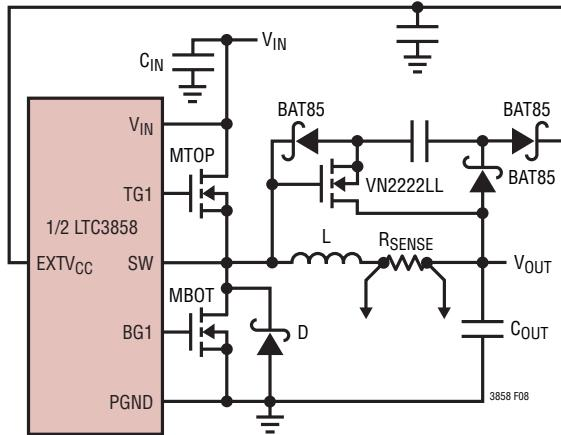

Figure 8. Capacitive Charge Pump for  $\text{EXTV}_{\text{CC}}$
4.  $\text{EXTV}_{\text{CC}}$  Connected to an Output-Derived Boost Network. For 3.3V and other low voltage regulators, efficiency gains can still be realized by connecting  $\text{EXTV}_{\text{CC}}$  to an output-derived voltage that has been boosted to greater than 4.7V. This can be done with the capacitive charge pump shown in Figure 8. Ensure that  $\text{EXTV}_{\text{CC}} < \text{V}_{\text{IN}}$ .